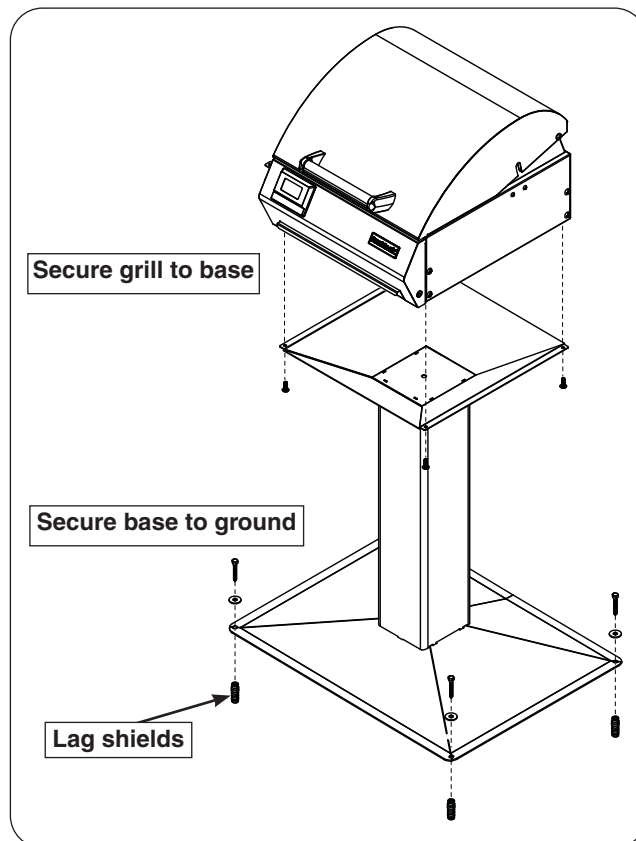

Fig. 12-3 Post model installation
3. Align the electric grill onto the top of the post assembly. Using the same four screws, fasten the electric grill to the post assembly. See Fig. 12-3.
1. Locate the patio mount base in the planned grill location and mark the 4 holes. Drill the marked holes to a $\frac{1}{2}$ " diameter x $1\frac{1}{2}$ " depth. Insert the lag shields (see Fig. 12-3) into the holes, being sure that they are flush with the ground.
2. Align the holes on the patio mount base over the lag shields in the ground. Secure the base with the lag screws (see Fig. 12-3) using a $\frac{7}{16}$ " nut driver.